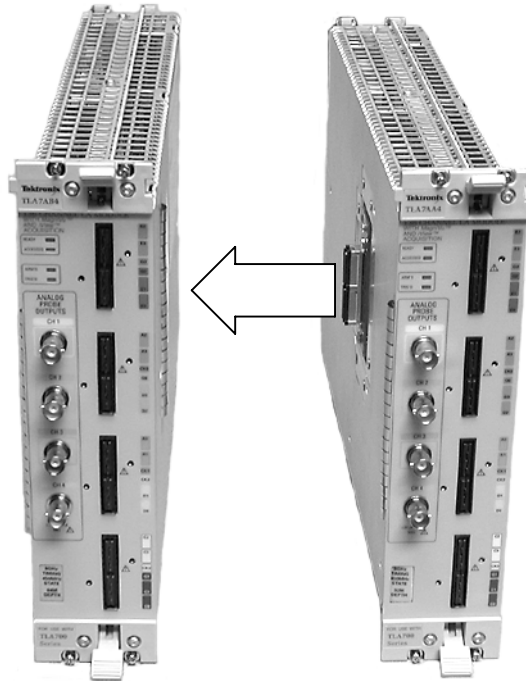

Figure 25: Connecting modules in a merged set
6. Place the first pair of modules to be merged side-by-side such that the merge connector assemblies line up and connect between the two modules (see Figure 25).